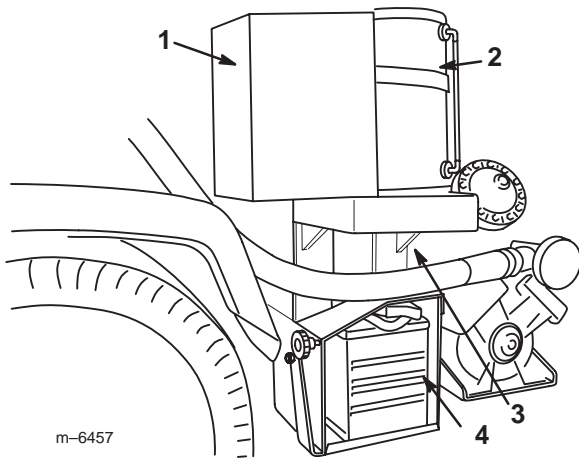

Figure 1
1. Remove the 4 bolts and flat washers that hold the cover to the tank/compressor assembly and remove the cover (Fig. 1).
- Mount the bracket to the right side of the vehicle above the battery (Fig. 1) using 4 bolts (3/8 x 1 in.) and flange locknuts.